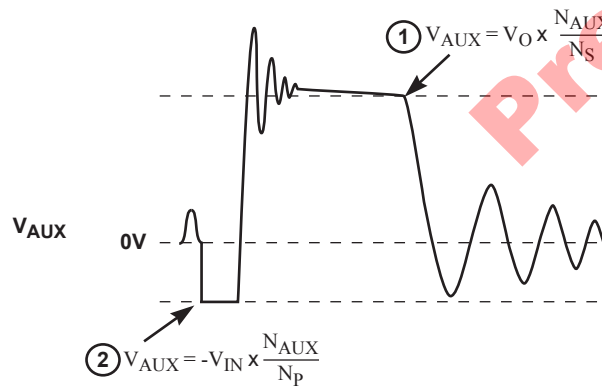
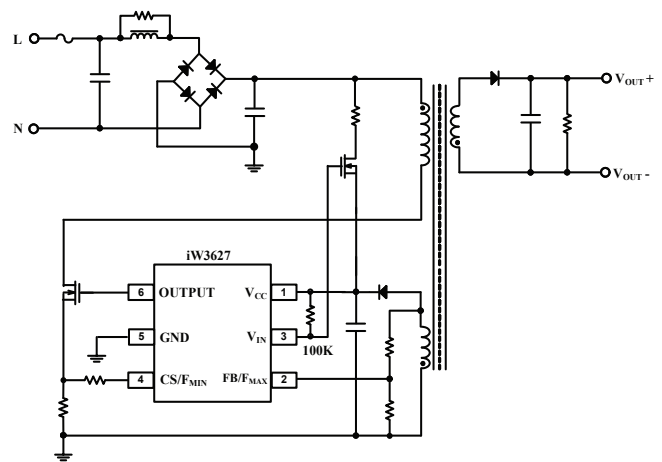

Figure 9.4: Auxiliary Voltage Waveforms
Figure 9.5: Minimizing No-Load Standby Power By Removing R_{IN} Resistor
and reflects the output voltage as shown in Figure 9.4.
The iW3627 incorporates constant voltage (CV) operation, where the average of output voltage maintains constant by regulating the point 1 indicated in Figure 9.4 to $FB_{(NOM)}$ (1.536V typically). During a constant voltage operation, the iW3627 may operate in pulse-width-modulation (PWM) mode or pulse-frequency-modulation (PFM) mode, depending on the load conditions. In particular, the iW3627 allows the switching frequency to drop as low as 600Hz (or 1kHz by configuration options) at PFM mode, which helps the system stay regulated at very light load condition, thus improving the active operating efficiency by using a large pre-load resistor. The typical no-load standby power consumption is less than 200mW. No load standby power can be further minimized by removing the V_{IN} external sensing resistor and connecting a 100k Ω between the V_{IN} and V_{CC} pins, as shown in Figure 9.5.
The secondary maximum output voltage is limited by the iW3627. When the FB/F_{MAX} pin voltage exceeds the output OVP threshold (FB_(OVP)) in point 1 indicated in Fig. 9.4, the iW3627 shuts down.
Output short fault is also detected via the FB/F_{MAX} pin. When the point 1 in Figure 9.4 is below 115mV for several consecutive cycles, the iW3627 shuts down.